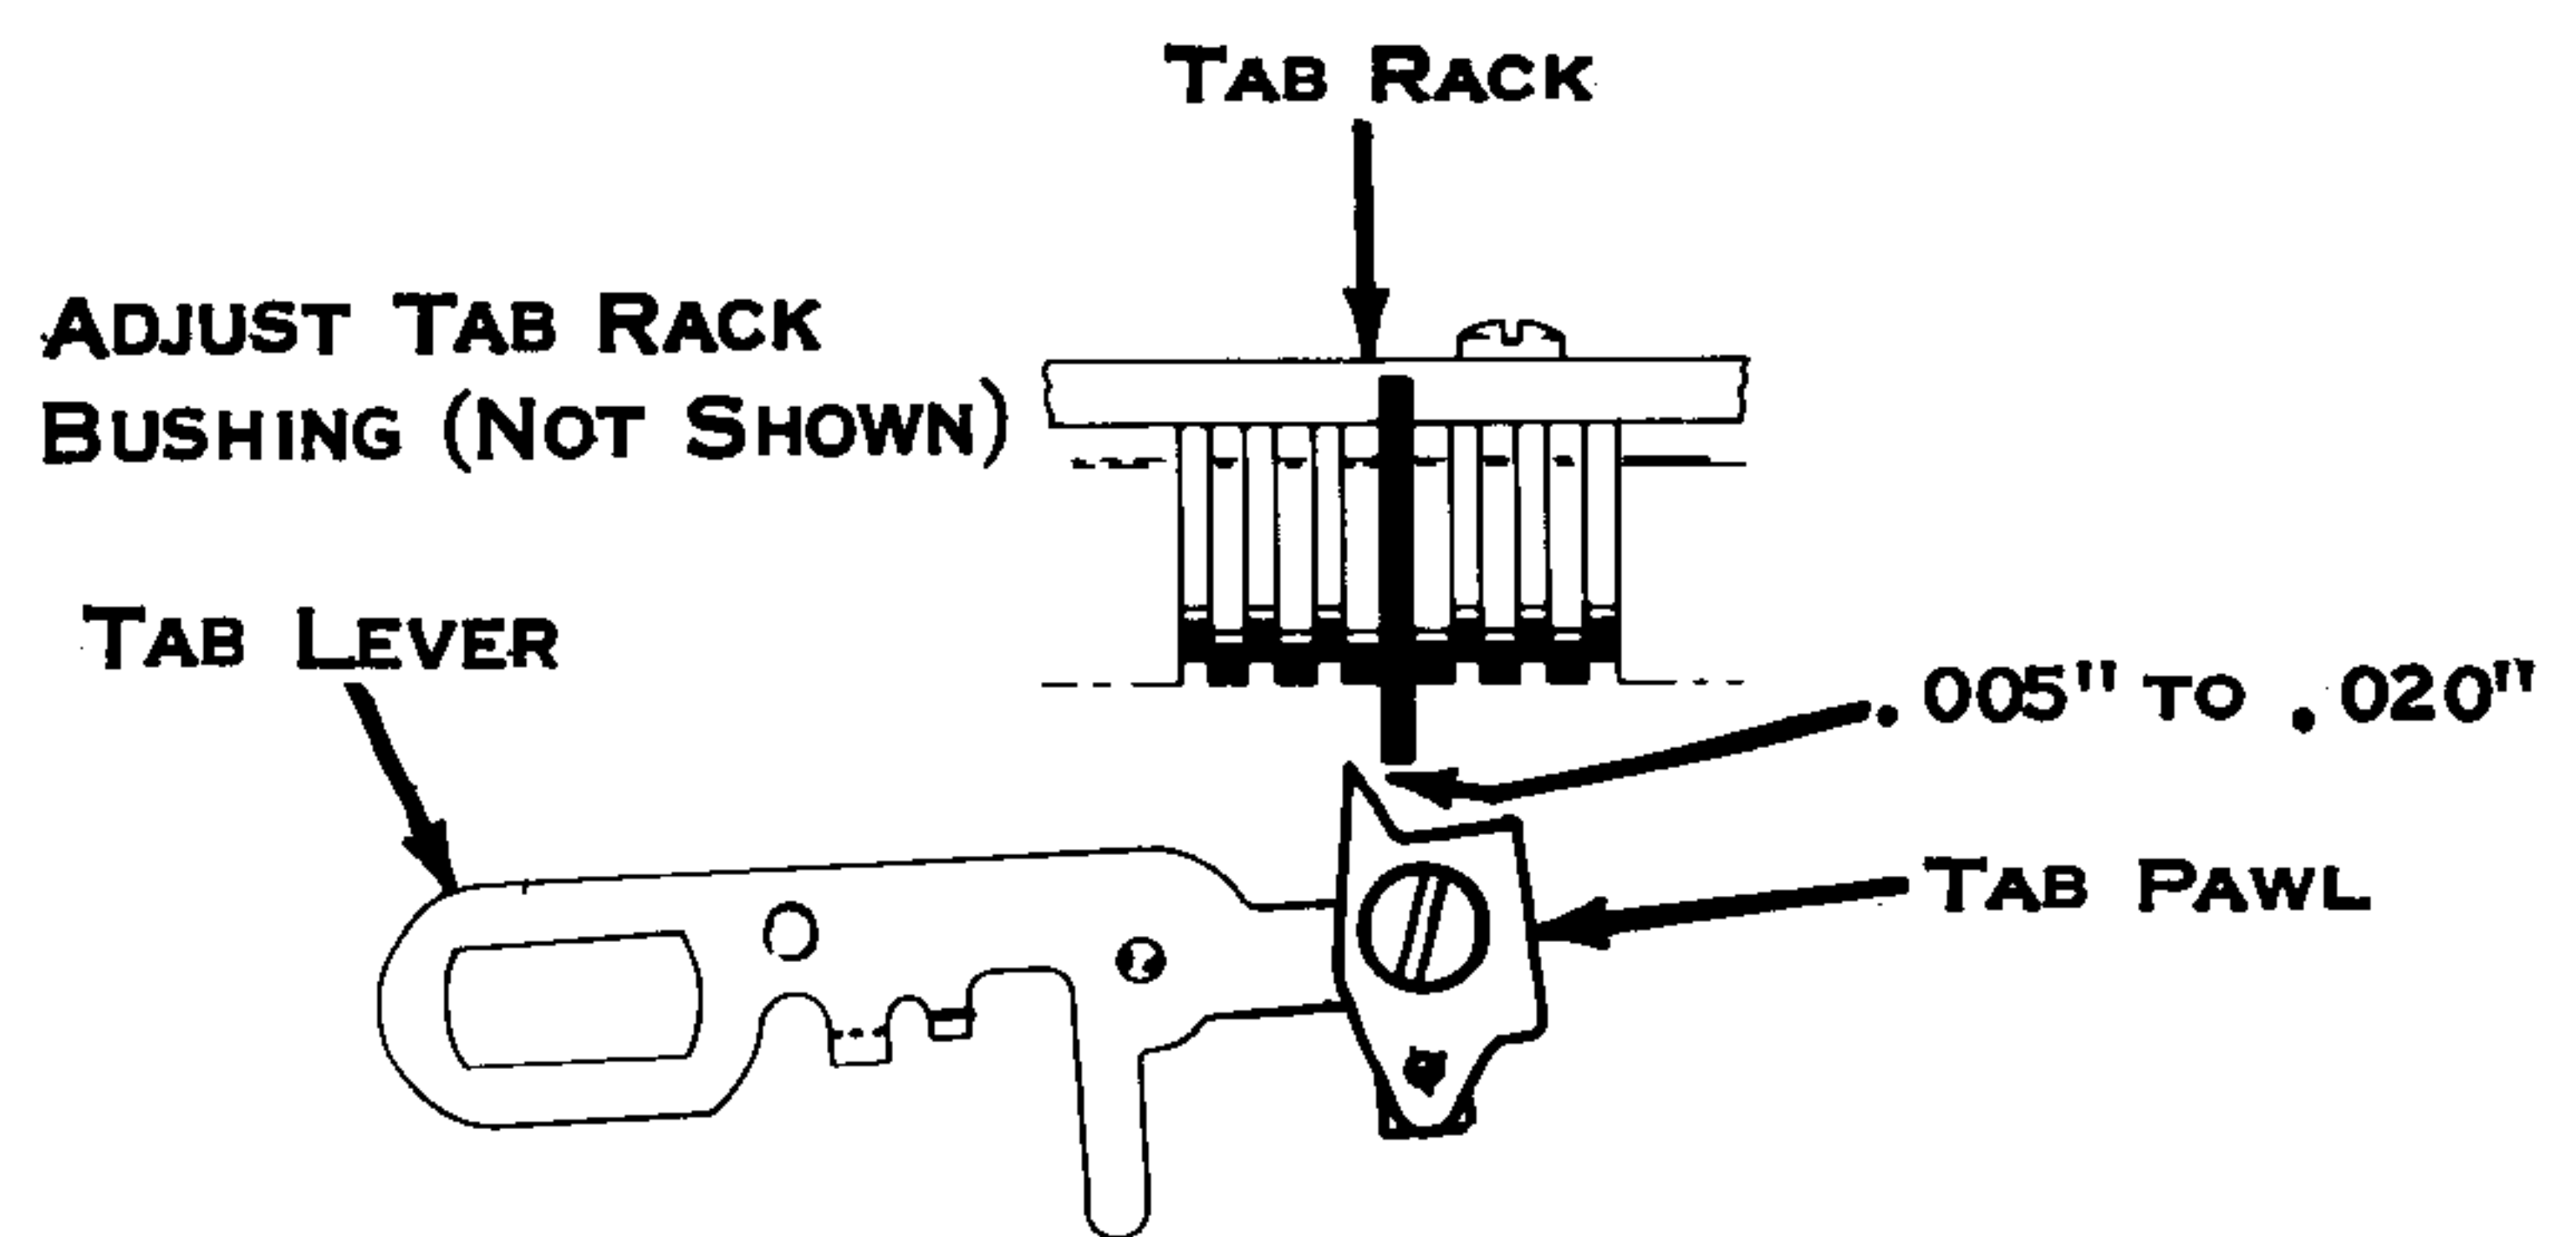

Figure 166. Tab Rack Bushing
3. Tab Rack (Fig. 166) - The tab rack bushing should be adjusted so that .005" to .020" clearance exists between the tip of the tab lever pawl and the tab stop as the tips are in line with each other.